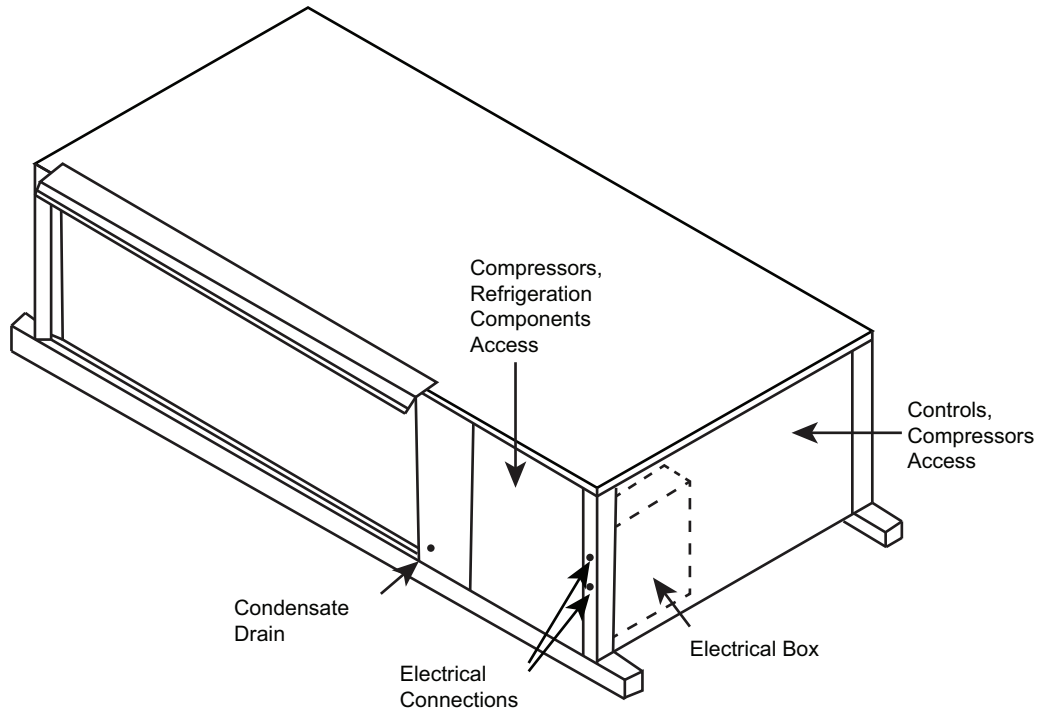

Fig. 49 — Electrical Control Box Location, 50HQP Units
4. Mount the VFD box using the mounting brackets to a suitable remote mounting location. See Fig. 49.